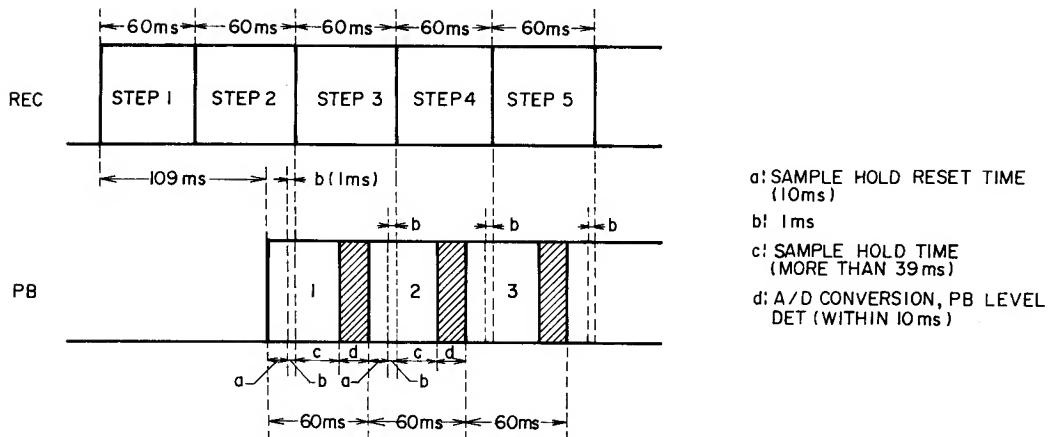

Fig. 1-8
4-4. Bias Tuning (Refer to Figs. 1-8, 9, 10)
- 3) Figure 1-8 shows the REC/PB timing. The REC bias data is switched 1 msec after the end of "a". The sample-holding of the PB signal takes place during "c". In "d", the PB level is subjected to A/D conversion, and the level associated with each step is determined within the Mi-Com.